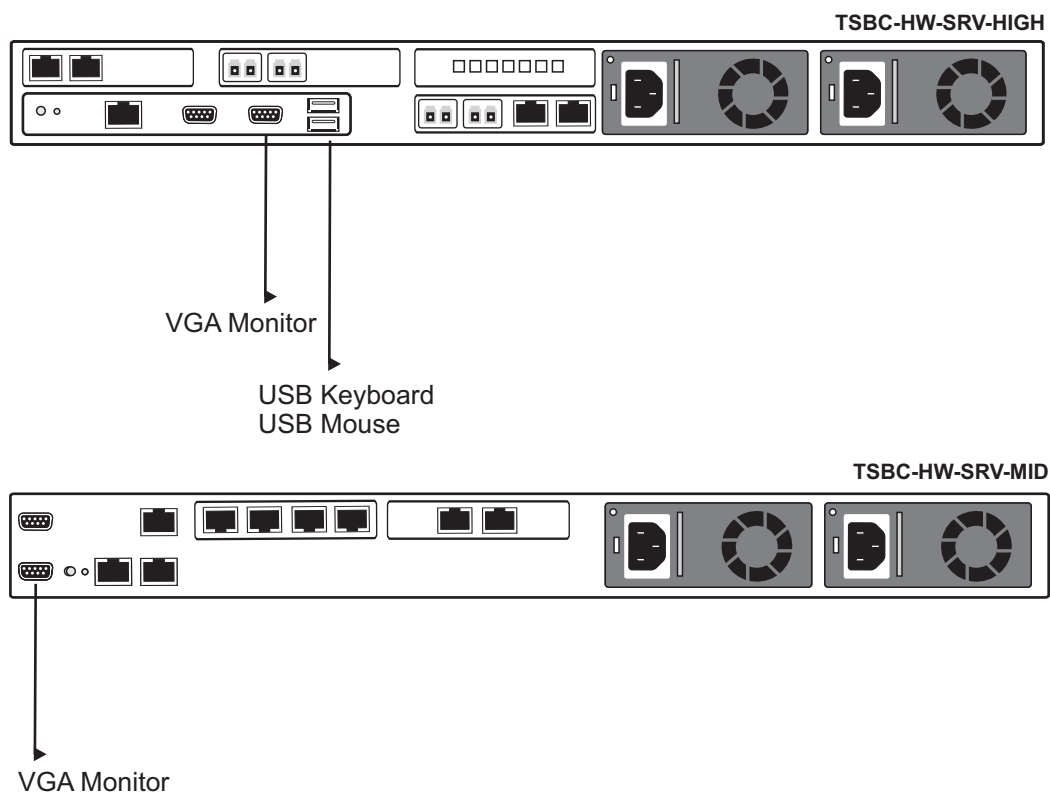

Figure 7.4 USB to DB9 Adapter
1. Connect a VGA monitor to the VGA port of the TSBC-HW-SRV. Connect a USB keyboard to an available USB port on the TSBC-HW-SRV. Do the same for a USB mouse See figure 7.4 on page 41.